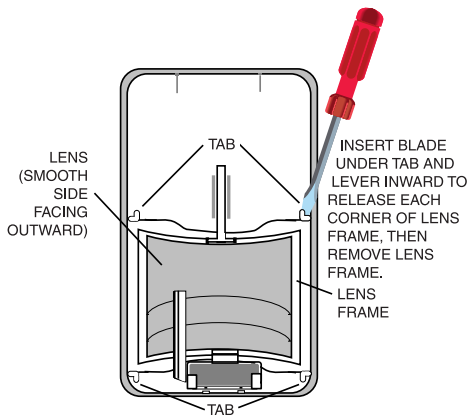

Figure 4. Changing Lenses
2. Release the lens support frame located in front cover as follows: insert the blade of a small screwdriver between the locking tab and the detector case in each of the four corners of the frame, and lever each tab upward to release. See Figure 4. When all four corners are released, remove the lens support frame.
3. Remove the existing lens and replace with the replacement lens. **The lens must be installed with the smooth side facing outward. Also, the lens should be oriented with its part number on the upper right-hand side (see Fig. 4).** Be sure to center the lens. **Note:** Lens surface should be free of dirt, foreign matter and fingerprints. Use a clean, dry, soft cloth to wipe lens surfaces.
The standard lens can be used to provide a pet alley. To do so, mask the bottom two rows (see Fig. 4) and mount as though the optional pet alley lens were installed.